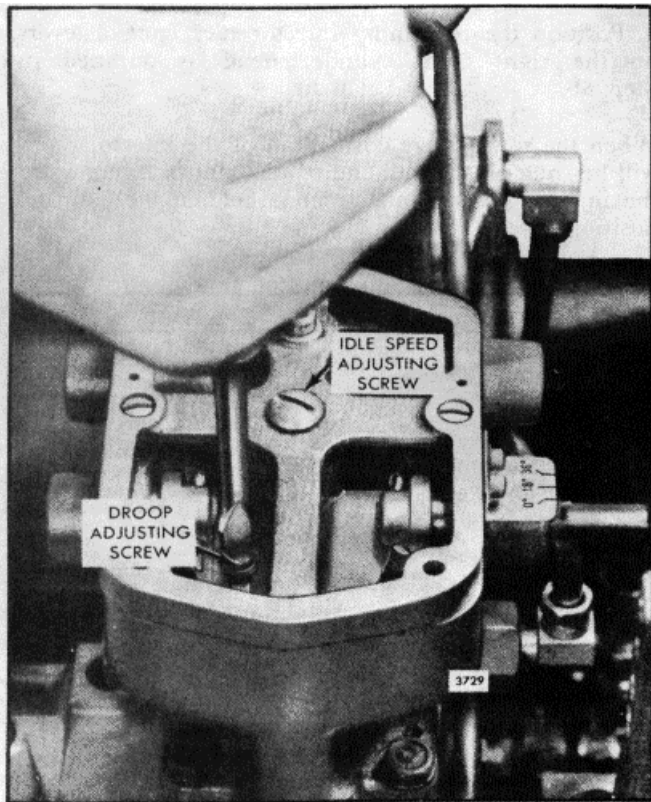

Fig. 7. - Adjusting Speed Droop
2. Set the governor speed droop bracket at its mid-position (Fig. 7). After the other adjustments are made, the speed droop may be increased if the engine speed is unstable.